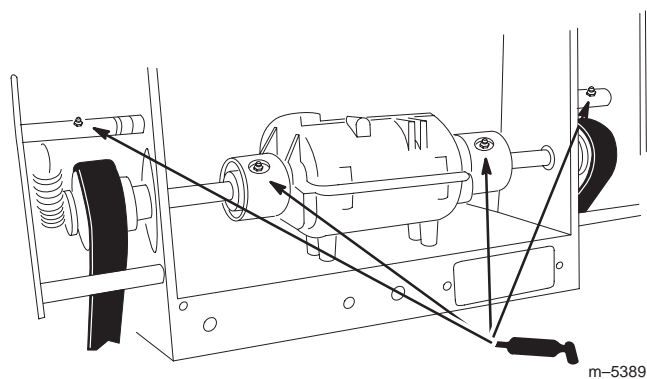

Figure 41
2. Lubricate the transmission couplers after every 100 operating hours and the idler bracket pivots after every 8 operating hours (Fig 41).